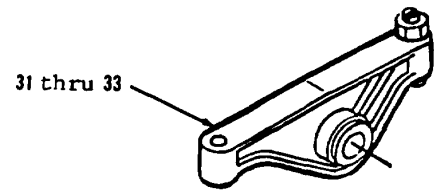

Figure 3-54.
20. Remove items 31 thru 33 as an assembly (Figure 3-54).